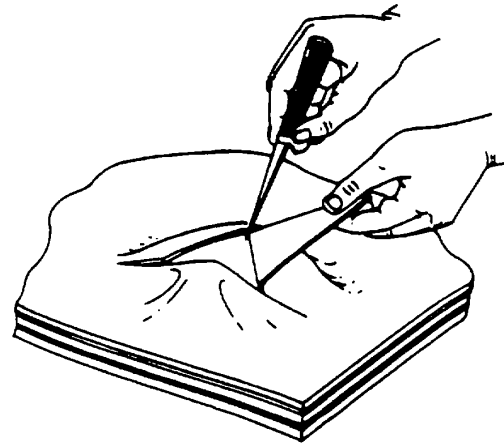

Figure 2-24. Removing Outer Coating
(1) Use knife and trim away loose, damaged or blistered outer coating (figure 2-24), except for loose fitting flange repair.
(a) Use knife and trim away loose, damaged or blistered outer coating edges (figure 2-24).